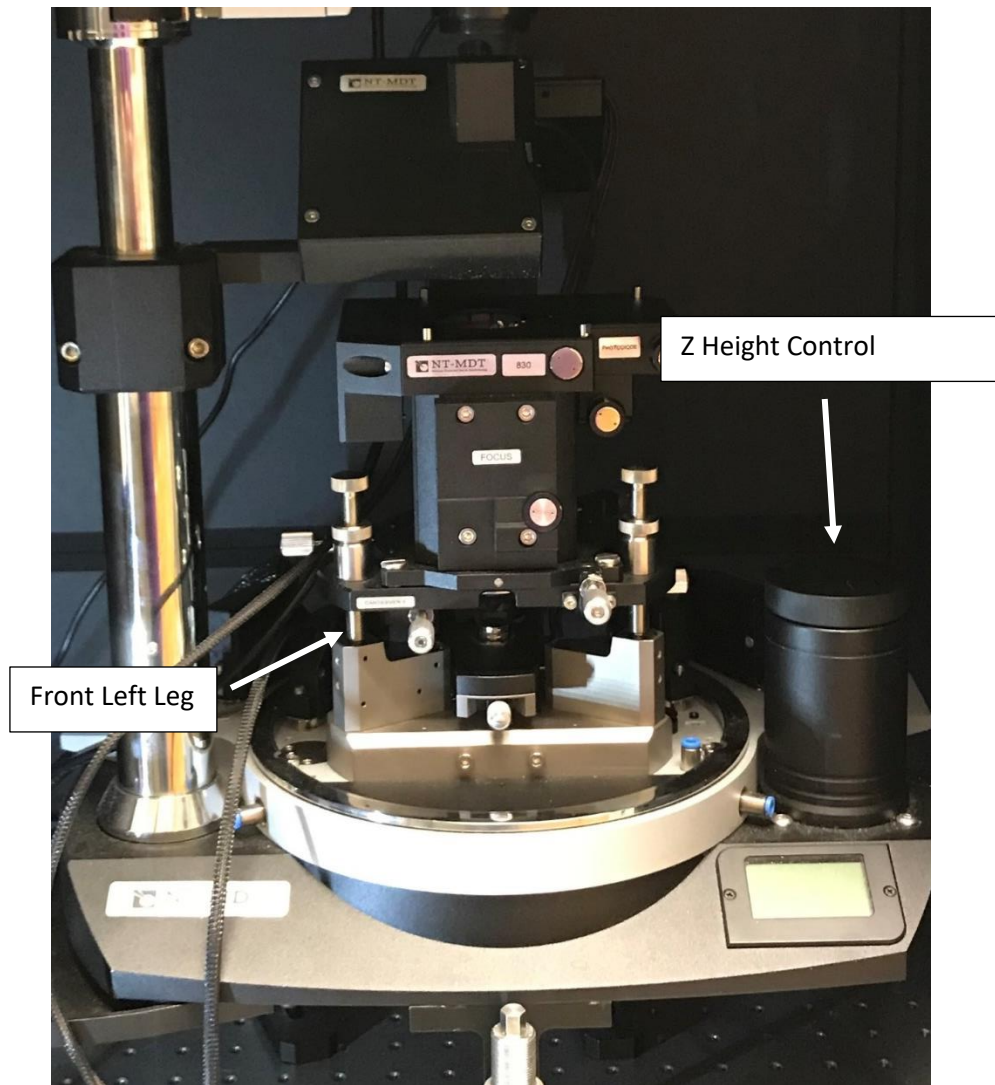

Figure 3: Z height control and optical head legs
- Lower the stage to the lowest point using the z control (Figure 3)
- Pivot the optical head on the front left leg (Figure 3)